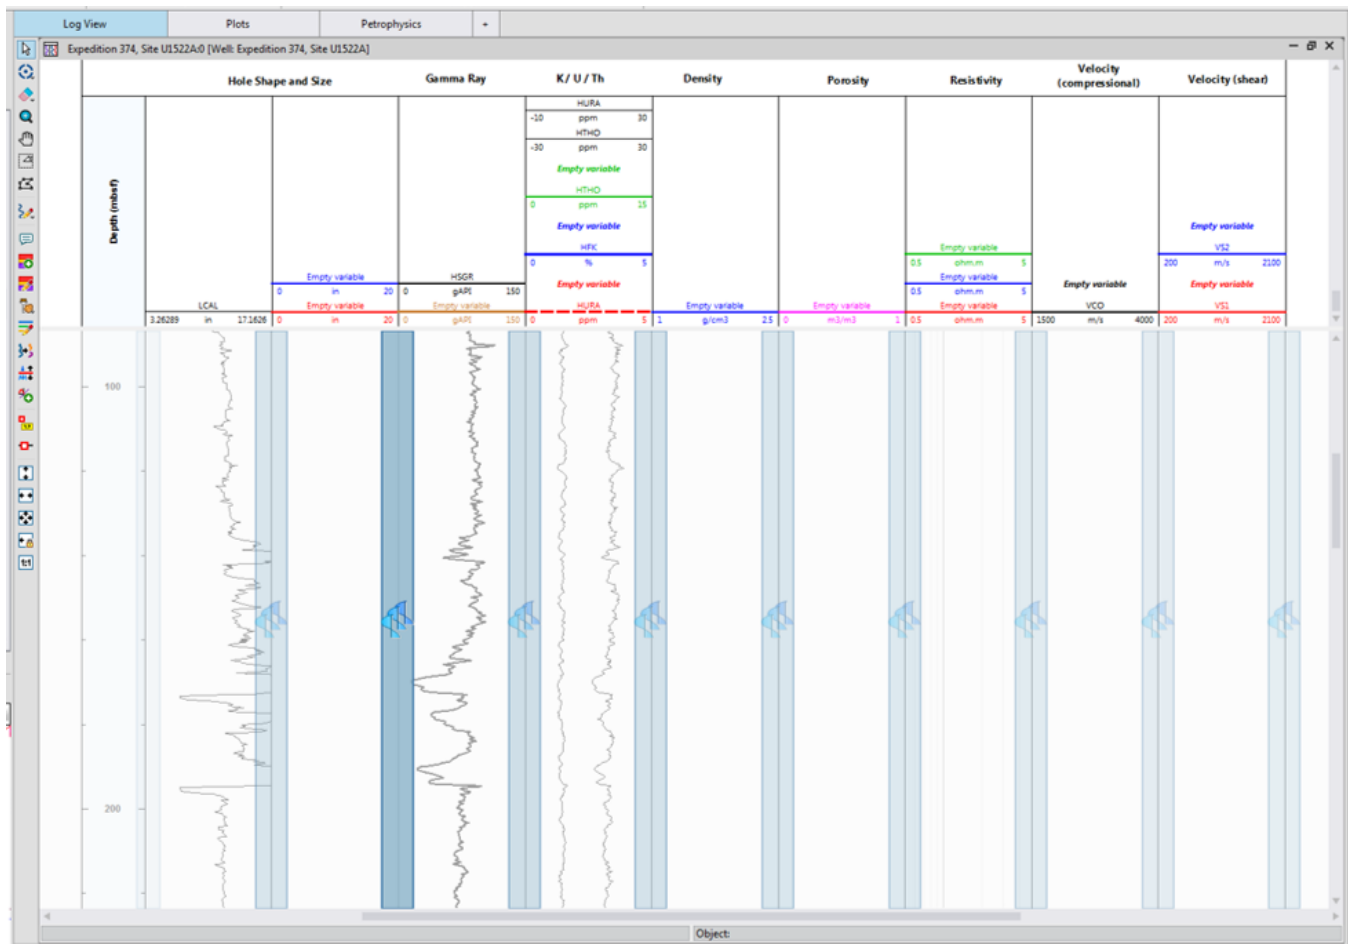

Figure 17: Log View plot in edit mode where the user can drag-and-drop a variable into an existing track, or create a new track in between.
3. To create a new track for a variable, simply click-and-drag a variable in between existing tracks, highlighted as blue columns that temporarily appear in the Log View plot (Fig. 17)